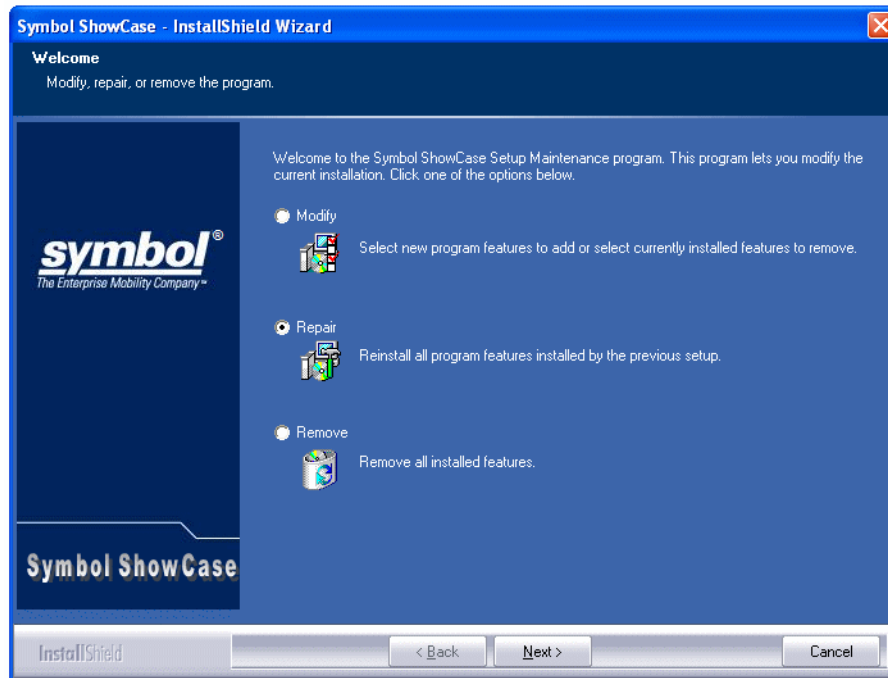

Figure 5-3. ShowCase Modify, Repair, or Remove Window
2. The *Preparing Setup* window automatically launches the *ShowCase Modify, Repair or Remove* window (see Figure 5-3 on page 5-4).